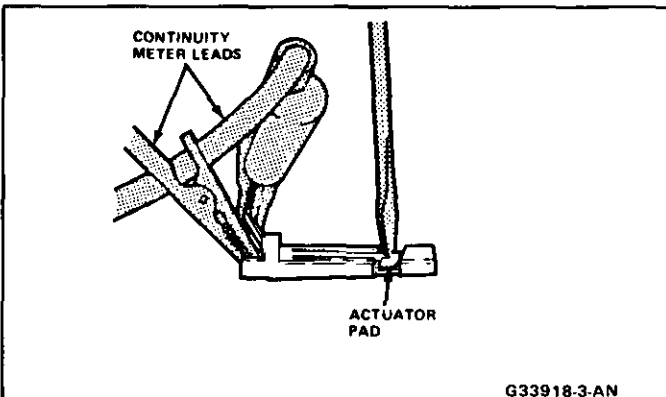

Fig. 7 Checking Switch Continuity
7. Switch appears good but will not operate. Connect continuity meter leads to the reminder switch probes. Press on the actuator pad until the interior points contact (Fig. 7). If contact is not made, replace reminder switch.